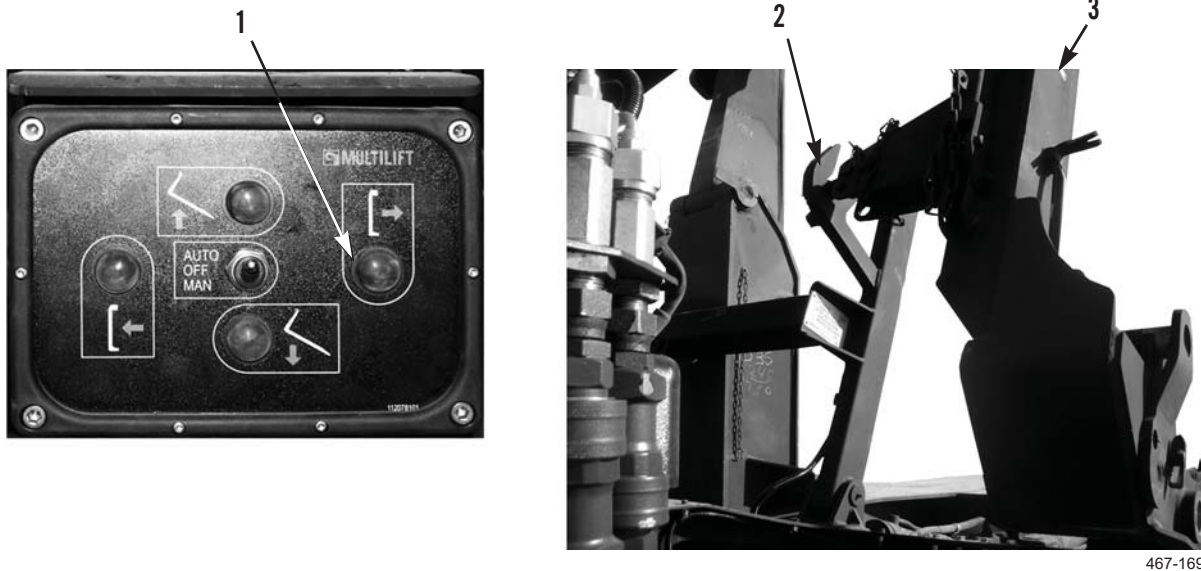

Figure 3. Intermediate Retrieval Position.
6. Press and hold RETRIEVE button (Figure 3, Item 1) until stowage guide (Figure 3, Item 2) stops at intermediate position. Release RETRIEVE button. Stowage latch opens and stowage guide rotates rearward carrying lift frame (Figure 3, Item 3) with it.